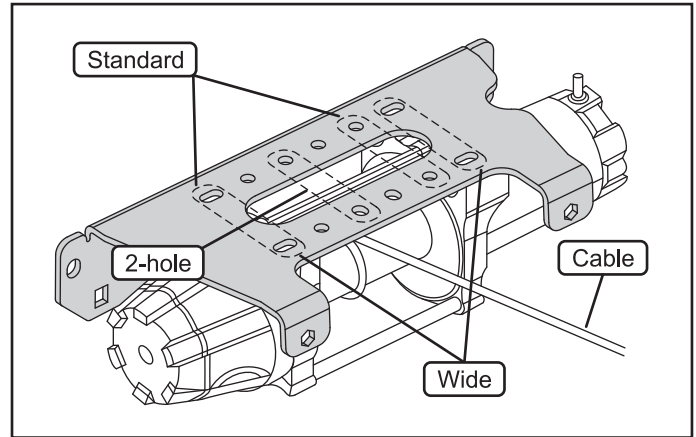

Figure 1. Winch hole configurations
1. Attach your winch to the winch mount (A) with the hardware provided with your winch. See figure 1.